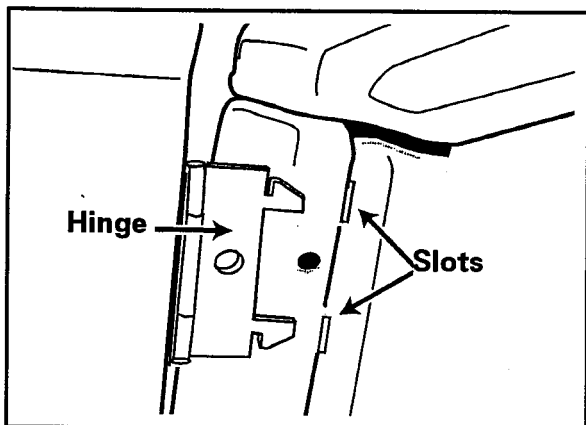

Figure 5-1
1. Open the door and remove the center screw of each hinge secured to the inner flange of the front panel in the door opening, (*See Figure 5-1*).